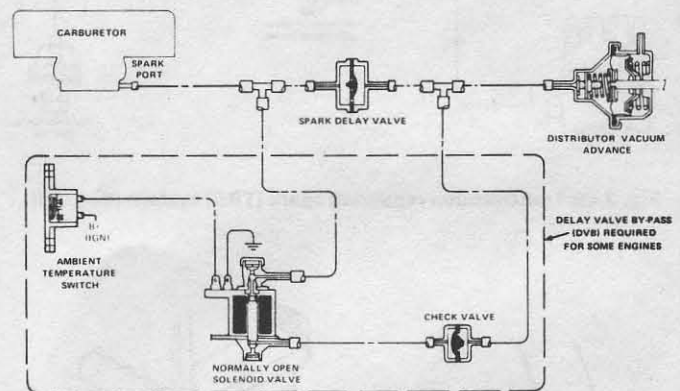

Fig. 3.66 Spark delay valve system (Sec. 29)
- 15 A spark delay valve (SDV) is incorporated in the system to delay the carburetor spark vacuum to the distributor diaphragm unit for a predetermined time. During acceleration, little or no vacuum is admitted to the distributor diaphragm unit until acceleration is completed because of the time delay of the SDV and the re-routing of the EGR port vacuum at temperatures above 95°F (32°C). The check valve blocks the vacuum signal from the SDV to the EGR/PVS, so that carburetor spark vacuum will not be dissipated at temperatures above 95°F (32°C) (Fig. 3.66).